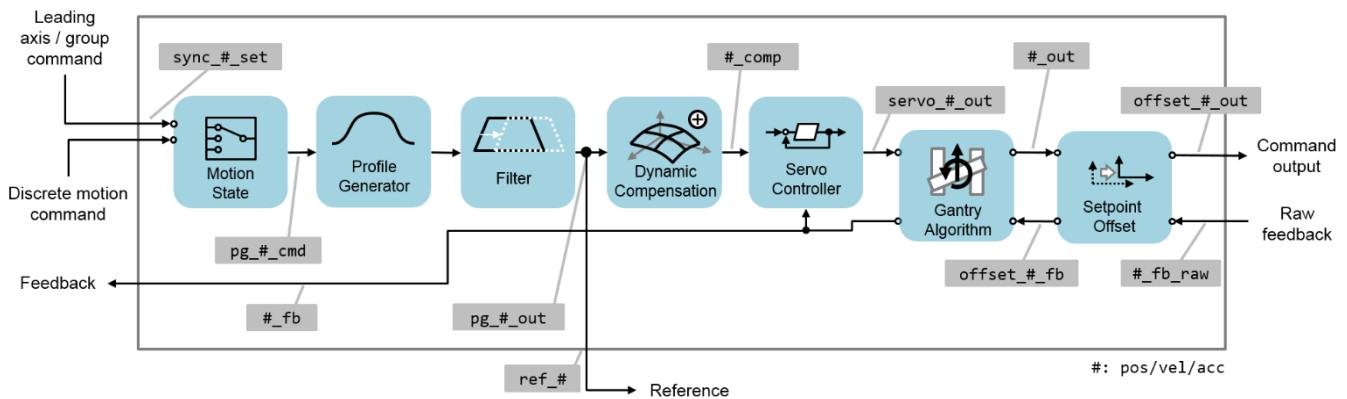

Figure 5.1.1
HIMC provides single axis motion commands, including point-to-point (P2P), JOG and synchronized motion. Users can use the related motion functions based on application and requirement. Figure 5.1.1 is the flow diagram of HIMC axis motion control. Reference position will be generated after motion command goes through the built-in profile generator (PG), and the position output for servo drive will be generated after the output reference position adds error compensation value.